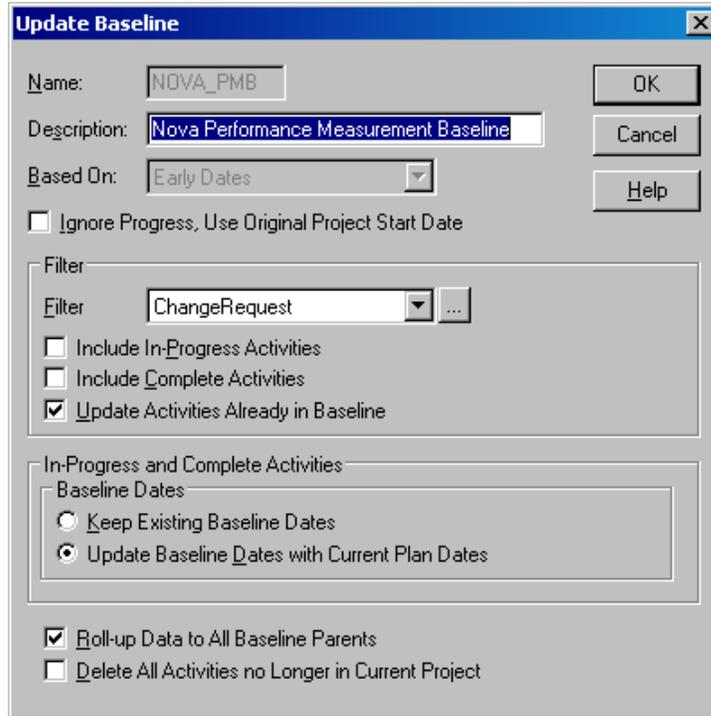

Figure 3 - Example screenshot of baseline update dialog box. Note: checked options may differ depending on tasks involved in a particular change request.
- 6) Update the PMB baseline using the settings in Figure 3. Make sure the "Change Request" filter is applied for the update. If no "In Progress" or "Complete" activities are involved in the Update, uncheck those option boxes. Select the "Rollup to Baseline Parents" option.
- 7) Update the Ken_OBL baseline using the settings in Figure 3 (with KEN_OBL baseline selected rather than NOVA_PMB). Make sure the "Change Request" filter is applied for the update. If no "In Progress" or "Complete" activities are involved in the Update, uncheck those option boxes. Select the "Rollup to Baseline Parents" option.